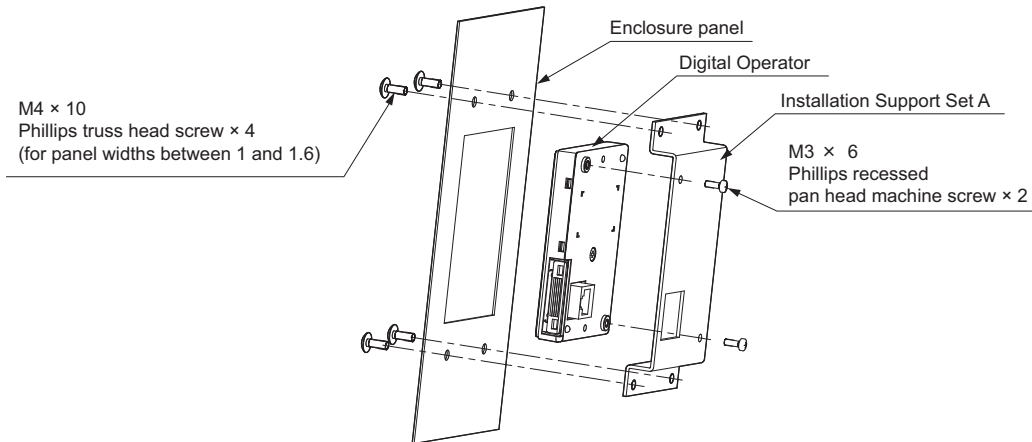

**Figure 2.12 Panel Cut-Out Dimensions (External/Face-Mount Installation)**
1. Cut an opening in the enclosure panel for the digital operator as shown in Figure 2.12.